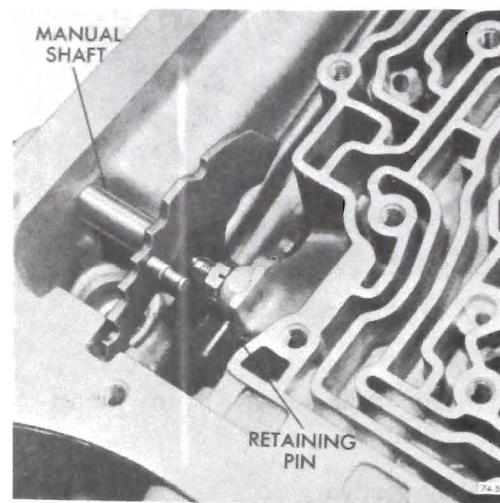

Figure 76-529
b. Remove manual shaft retaining pin from case. See Figure 76-529.